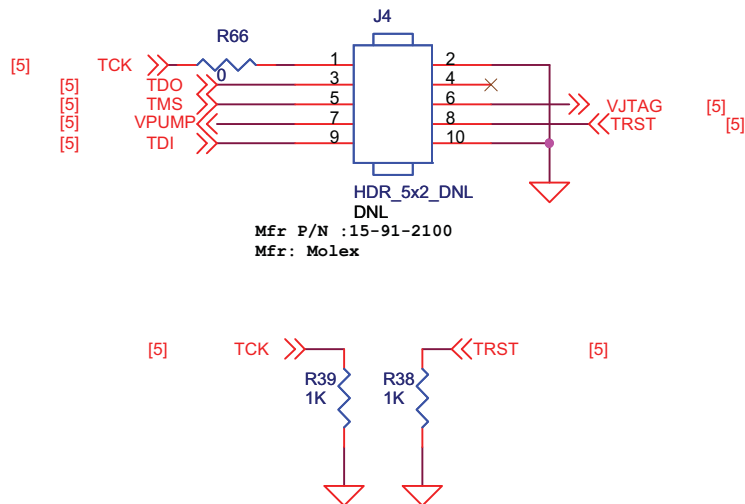

Figure 5-1 · Schematic of JTAG header for Programming Directly with a FlashPro3
5. Alternatively, an option (10-pin FP3 header) is provided to program the FPGA with a FlashPro3 instead (Figure 5-1).